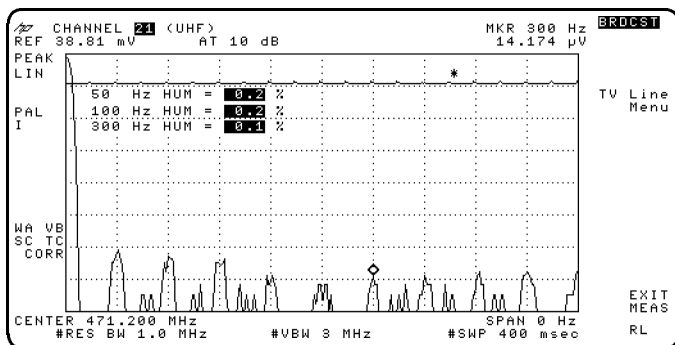

Figure 2-16. LF Error Measurement
- c. Press **LF ERROR** to measure the low frequency amplitude modulation on the vision carrier. This utilizes the FFT (Fast Fourier Transform) capabilities of the spectrum analyzer to measure the 50 Hz, 100 Hz and 300 Hz low frequency components on the vision carrier. The results are updated after each sweep and are displayed on the spectrum analyzer screen as shown in Figure 2-16.